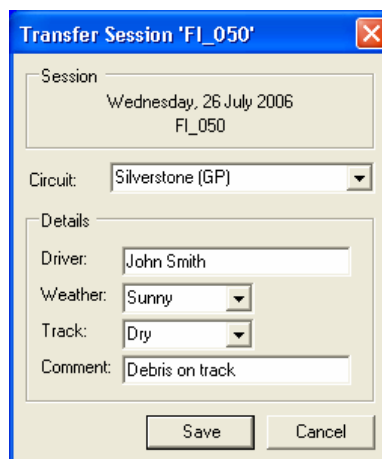

Figure 13 - Save Session Data Dialog
4. When the data has been successfully transferred the Transfer Session Data dialog (Figure 13) appears. Podium Flash will save the file with the same name and populate the Driver, Weather, and Track fields with the most recently used values.